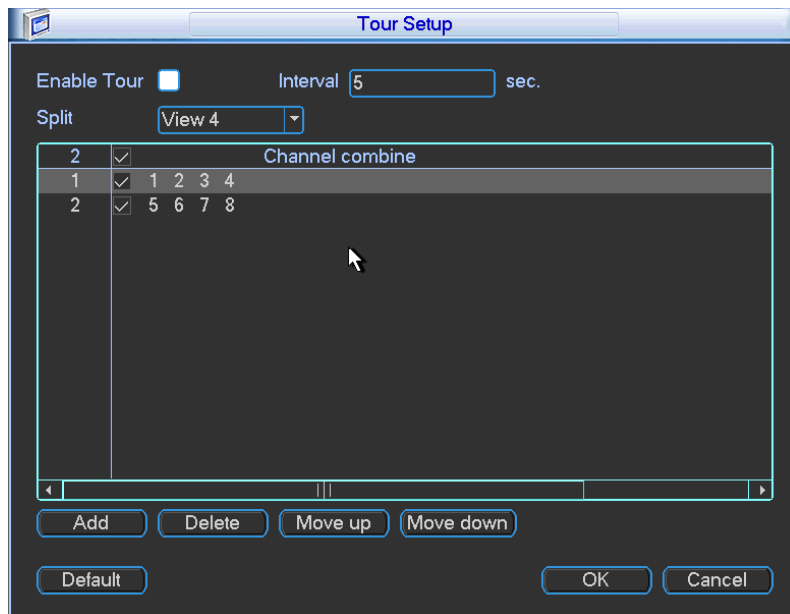

Figure 5-45
- Tour setup: Here you can activate tour function. Click Setup button, you can see an interface shown as in Figure 5-45.